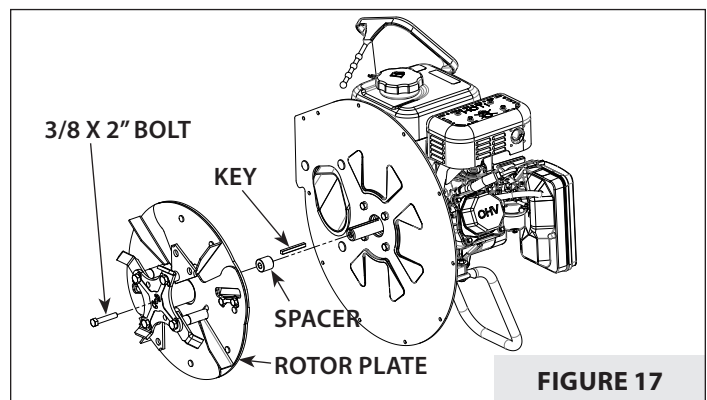

FIGURE 17
5. Carefully remove the rotor plate, spacer, and key from the crankshaft. **SEE FIGURE 17.**
1. Replace the rotor onto the crankshaft, careful to replace the spacer and key. **SEE FIGURE 17.**